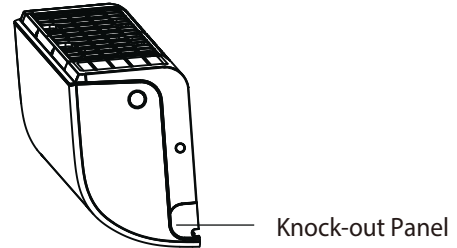

Fig. 17 — Knock Out Panel
- If the wall hole is behind the unit, keep the knock-out panel in place. If the wall hole is to the side of the indoor unit, remove the plastic knock-out panel from that side of the unit (see Fig. 17). This creates a slot through which your piping can exit the unit. Use needle nose pliers if the plastic panel is too difficult to remove by hand.